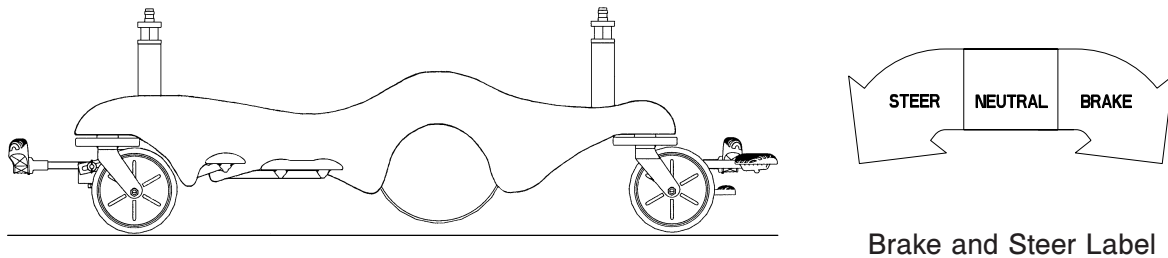

Figure 3.1: Neutral or Brake Position
**When the brake/steer pedal is in the neutral or brake position**, the Big Wheel is elevated approximately 3/4" and the stretcher rests on the four casters as shown in Figure 3.1.
**With the pedal in the neutral position**, the stretcher can be moved in any direction including sideways as shown in Figure 3.1.